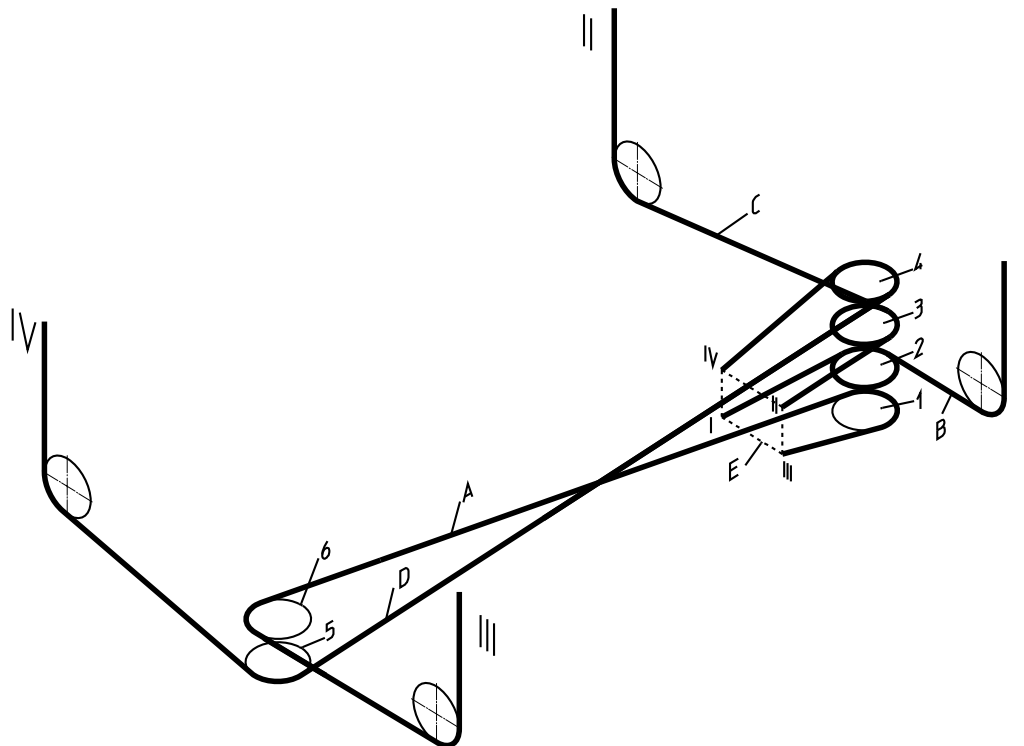

Figure 18: Cable run
9. Attach the cables to the piston head and secure them with adjusting screws M8×12. See also Figure 18: Cable run on page 38.